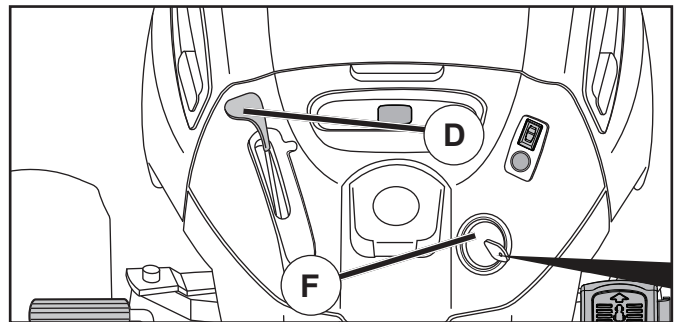

Fig. 19
- Move throttle control (D) to slow position.
- Turn ignition key (F) to "STOP" position and remove key. Always remove key when leaving tractor to prevent unauthorized use.
### TO USE THROTTLE CONTROL (D) (See Fig. 19)